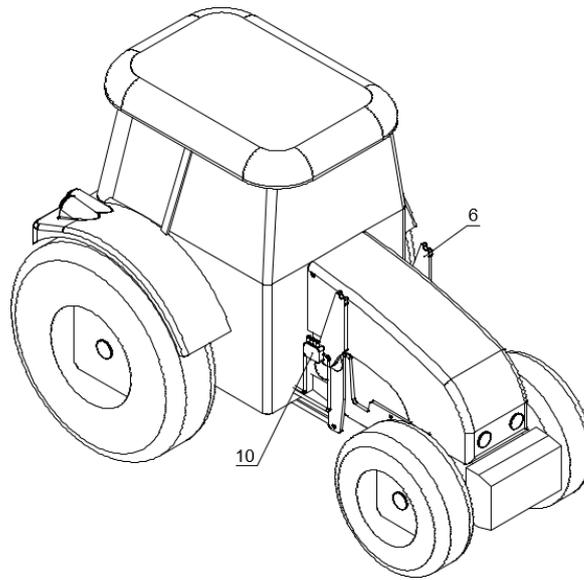

Figure 4. Front Loader Frame
The Front Loader may be attached only to a tractor (fig. 4) equipped with a support frame (6) recommended by the manufacturer and installed by an authorised dealer/manufacturer.